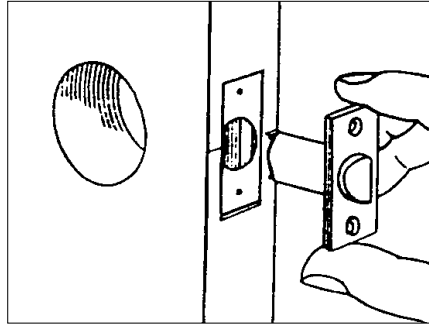

Figure 5
- 2) Bore a 1" (25 mm) hole for the latch straight into the edge of the door at the center point of the height line (see Figure 5).